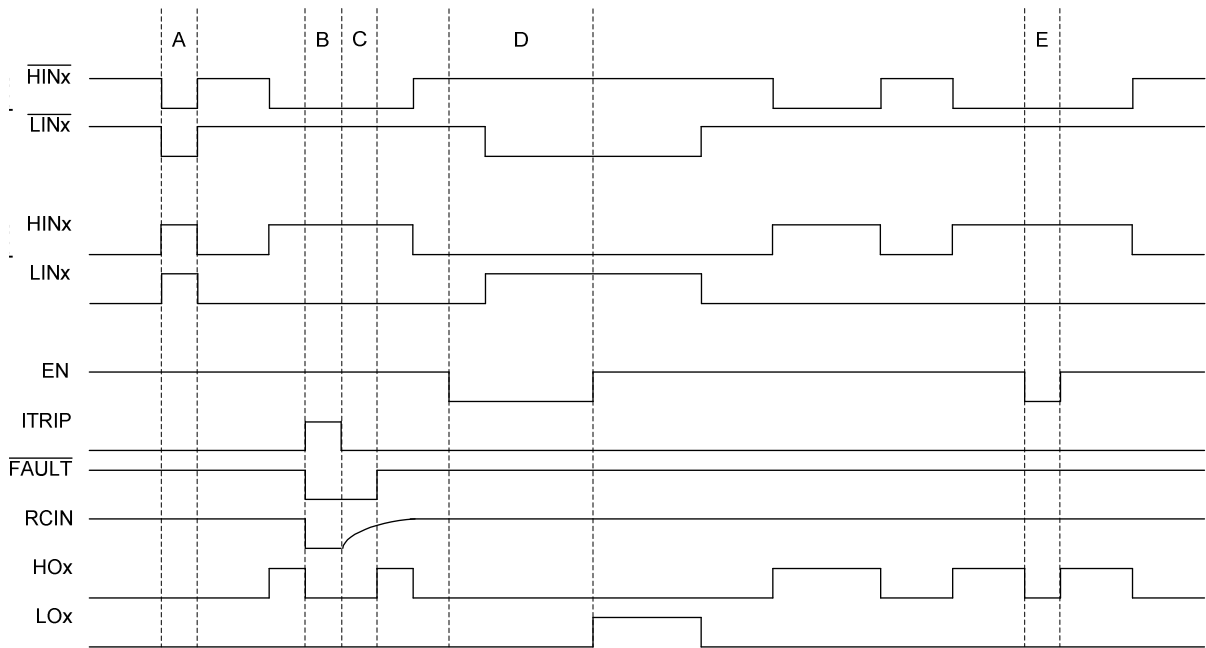
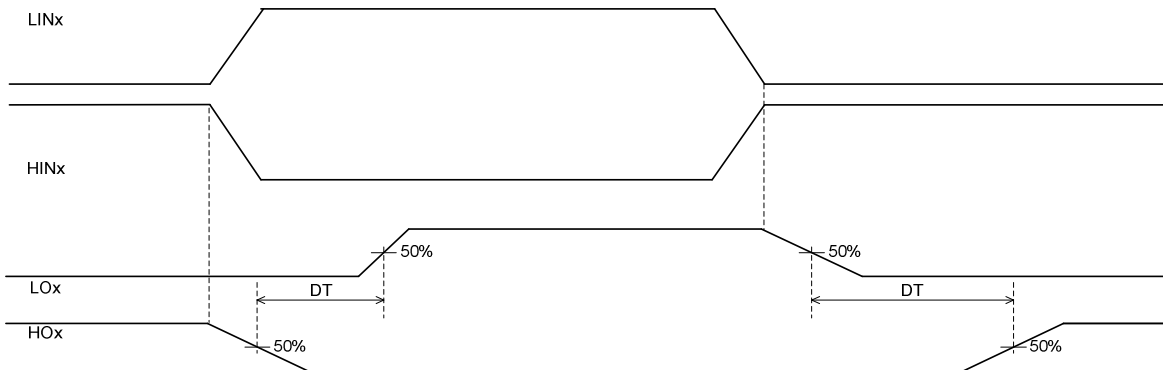

Figure 4: Input/output timing diagram
Figure 6: Illustration of deadtime
During interval A of Figure 4, the HVIC has received the command to turn-on both the high- and low-side switches at the same time; as a result, the shoot-through protection of the HVIC has prevented this condition and both the high- and low-side output are held in the off state.
Interval B of Figures 4 and 5 shows that the signal on the ITRIP input pin has gone from a low to a high state; as a result, all of the gate drive outputs have been disabled (i.e., see that HOx has returned to the low state; LOx is also held low), the voltage on the RCIN pin has been pulled to 0 V, and a fault is reported by the FAULT output transitioning to the low state. Once the ITRIP input has returned to the low state, the output will remain disabled and the fault condition reported until the voltage on the RCIN pin charges up to V_{RCIN,TH} (see interval C in Figure 6); the charging characteristics are dictated by the RC network attached to the RCIN pin.
During intervals D and E of Figure 4, we can see that the enable (EN) pin has been pulled low (as is the case when the driver IC has received a command from the control IC to shutdown); this results in the outputs (HOx and LOx) being held in the low state until the enable pin is pulled high.
This family of HVICs features integrated deadtime protection circuitry. The deadtime for these ICs is fixed; other ICs within IR's HVIC portfolio feature programmable deadtime for greater design flexibility. The deadtime feature inserts a time period (a minimum deadtime) in which both the high- and low-side power switches are held off; this is done to ensure that the power switch being turned off has fully turned off before the second power switch is turned on. This minimum deadtime is automatically inserted whenever the external deadtime is shorter than DT; external deadtimes larger than DT are not modified by the gate driver. Figure 6 illustrates the deadtime period and the relationship between the output gate signals.
The deadtime circuitry of the IRS23365D is matched with respect to the high- and low-side outputs of a given channel; additionally, the deadtimes of each of the three channels are matched. Figure 6 defines the two deadtime parameters (i.e., DT_1 and DT_2) of a specific channel; the deadtime matching parameter (MDT) associated with the IRS23365D specifies the maximum difference between DT_1 and DT_2 . The MDT parameter also applies when comparing the DT of one channel of the IRS23365D to that of another.